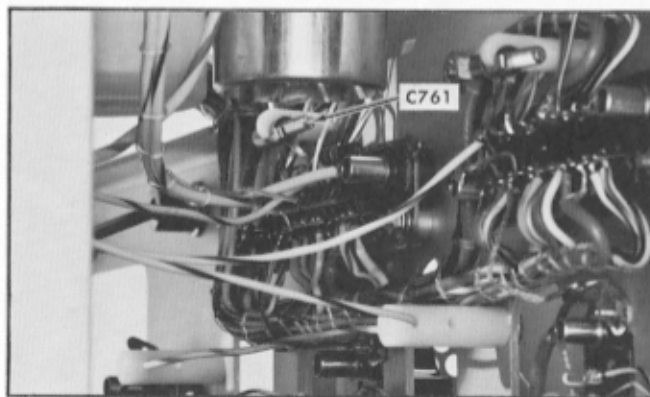
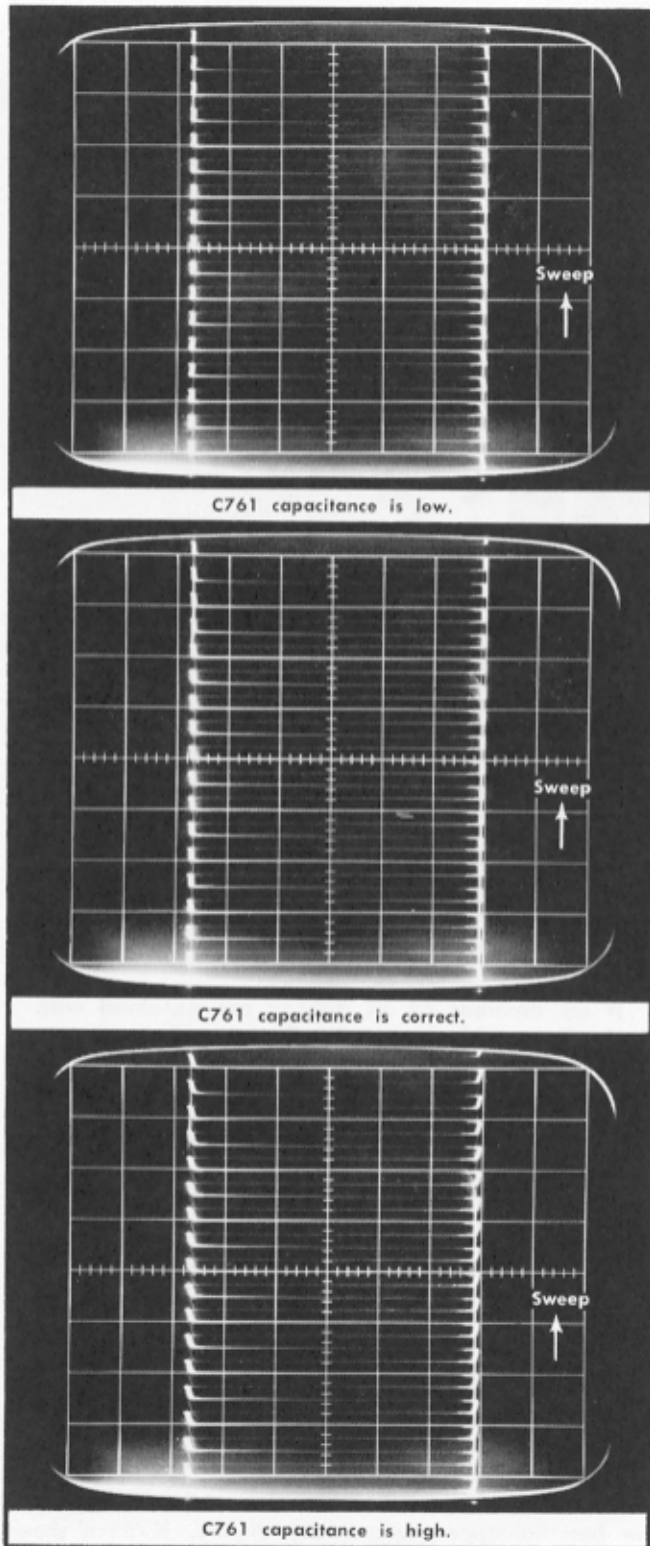

Fig. 5-17. Location of C761, step 9b.
Fig. 5-18. Waveforms for step 9b.
Use the low-capacitance tool (item 16) to adjust C761 for best flat-topped square-wave display. (C761 is shown in Fig. 5-17.) Proper compensation is shown in Fig. 5-18. It may be necessary to position the leads to the deflection plates to aid in obtaining a good square-wave display.